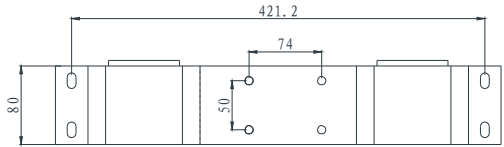

Figure 3.1
1) The size of the wall panel mounted on the wall, in mm. (See Figure 3.1)